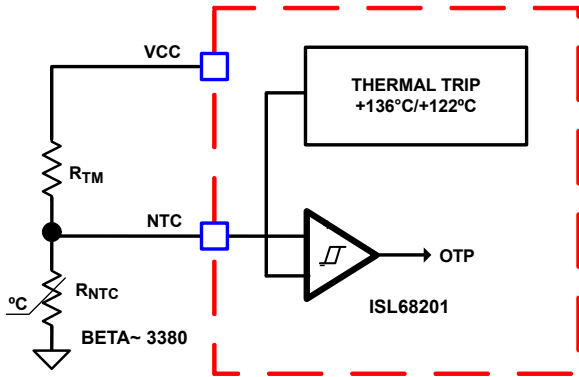
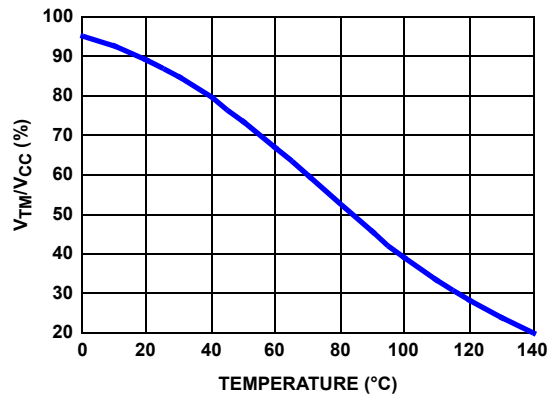

FIGURE 16. BLOCK DIAGRAM OF THERMAL MONITORING AND PROTECTION
FIGURE 18. THE RATIO OF TM VOLTAGE TO NTC TEMPERATURE WITH RECOMMENDED PART
The thermal monitoring function block diagram is shown in Figure 16 on page 18. One NTC resistor should be placed close to the respective power stage of the voltage regulator VR to sense the operational temperature, and pull-up resistors are needed to form the voltage dividers for the NTC pin. As the temperature of the power stage increases, the resistance of the NTC reduces, resulting in the reduced voltage at the NTC pin. Figure 18 on page 18 shows the TM voltage over the temperature for a typical design with a recommended 10kΩ NTC (P/N: NCP15XH103J03RC from Murata,  $\beta = 3380$ ) and 1.54kΩ resistor  $R_{TM}$ . It is recommended to use those resistors for accurate temperature compensation because the internal thermal digital code is developed based on these two components. If a different value is used, the temperature coefficient must be close to 3380 and  $R_{TM}$  must be scaled accordingly. For instance, if  $NTC = 20k\Omega$  ( $\beta = 3380$ ), then  $R_{TM}$  should be  $20k\Omega / 10k\Omega * 1.54k\Omega = 3.08k\Omega$ .
Based on the  $V_{CC}$  voltage, the ISL68201 converts the NTC pin voltage to a digital signal for temperature compensation. With the nonlinear A/D converter of the ISL68201, the NTC digital signal is linearly proportional to the NTC temperature. For accurate temperature compensation, the ratio of the NTC voltage to the NTC temperature of the practical design should be similar to that in Figure 18.
1. Properly choose the voltage divider for the NTC pin to match the NTC voltage vs temperature curve with the recommended curve in Figure 18 on page 18.
As shown in Figure 16 on page 18, there is a comparator with hysteresis to compare the NTC pin voltage to the threshold set. When the NTC pin voltage is lower than 22.31% of the VCC voltage (typically +136 °C), it triggers Over-Temperature Protection (OTP) and shuts down the ISL68201. When the NTC pin voltage is above 27.79% of the VCC voltage (typically +122.4 °C), the ISL68201 resumes normal operation. When an OTP fault is declared, the controller forces the LGATE and UGATE gate-driver outputs low.